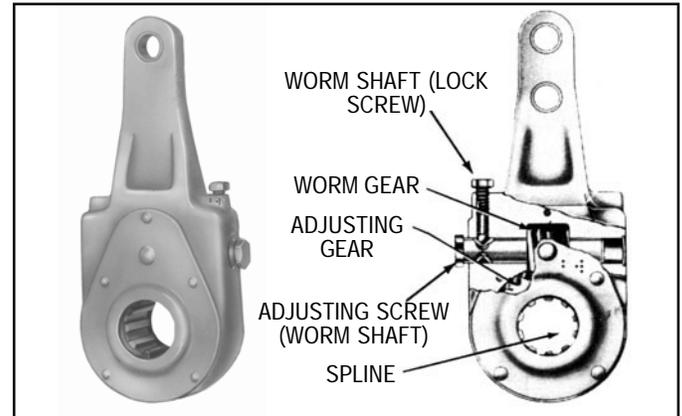

FIGURE 2 - BALL INDENT TYPE SLACK ADJUSTER
The heavier torque rated slack adjusters (Fig. 2) utilize the lock ball or plunger and worm shaft indent principle adjustment lock. The lock ball or plunger must engage the indent on the worm shaft after the adjustment is completed. An audible metallic click can be heard when engagement is made.
**Using the Ball Indent Slack Adjuster Mechanism: (Fig. 2)**